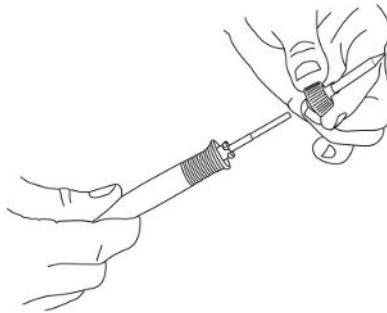

Fig. 25: Remove the soldering tip
- c) Press and hold down the reset button [12] (see Fig. 25) on the bottom with a suitable object (e.g. a paper clip). Do not use a pointed object.